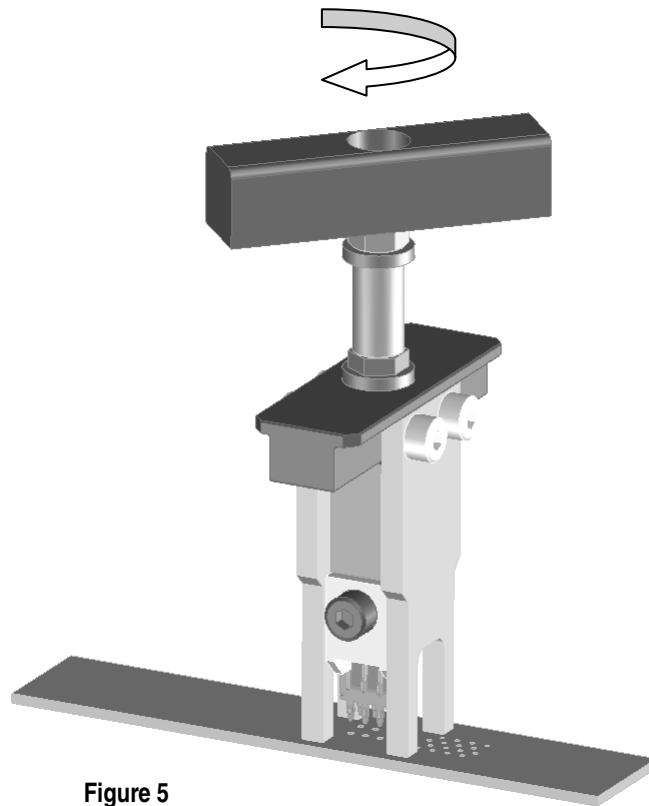

Figure 5
7. Position the Terminal Removal Tool so that the (2) side supports are resting on the printed circuit board.
8. Turn T-handle (CW) clockwise, making sure the threaded shaft goes into the threaded hole on top of the anvil.
9. Continue turning the T-Handle until the terminals lift up and are removed from the printed circuit board. See Figure 5.